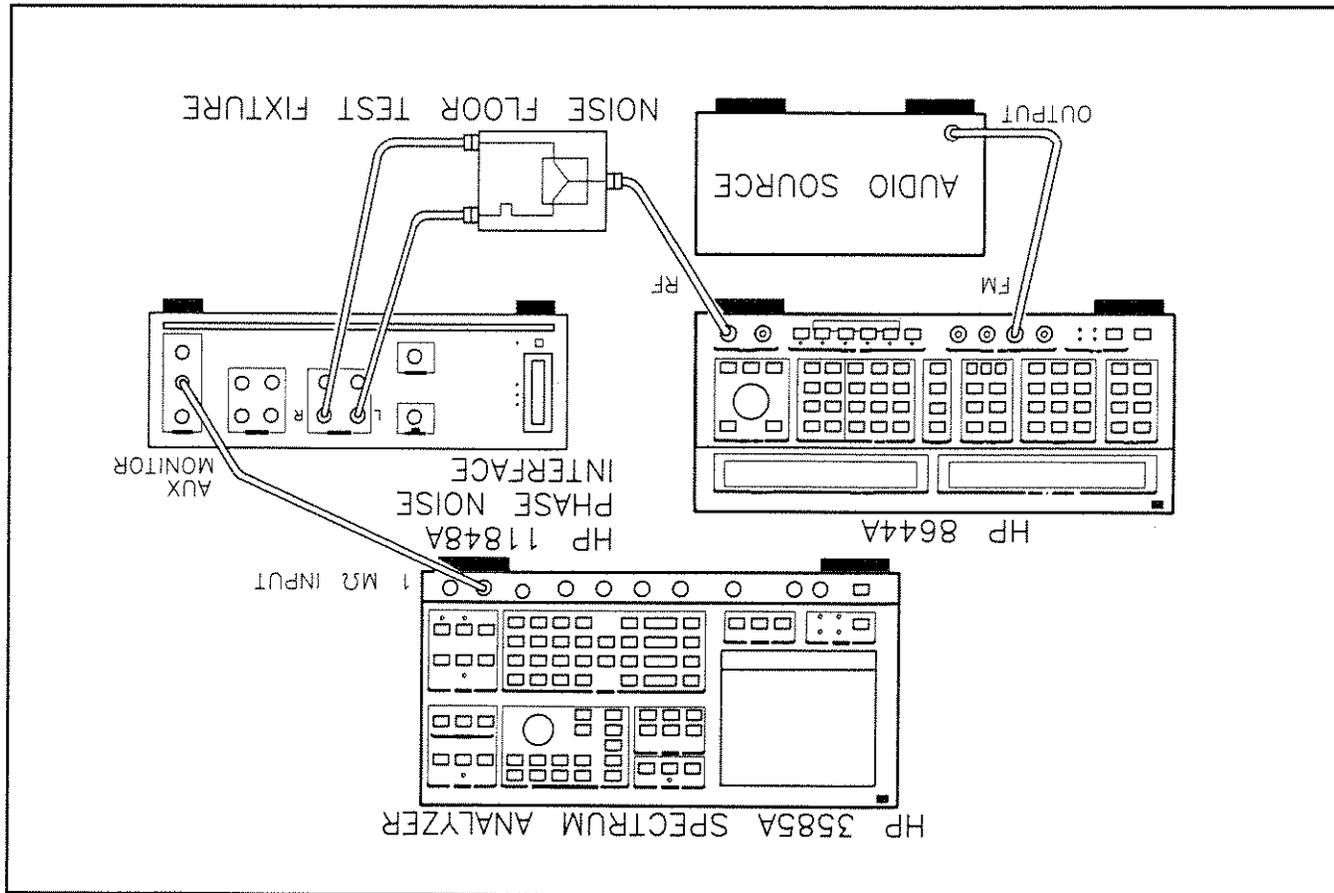

Figure 3-3. FM (High Deviation and Rates) Test Setup
2. Connect the equipment as shown in figure 3-3. Check that the SPECTRUM ANALYZER output connector on the front panel of the HP 11848A Phase Noise Interface is terminated in 50 Ω. Also, check that the delay line connectors are tight.